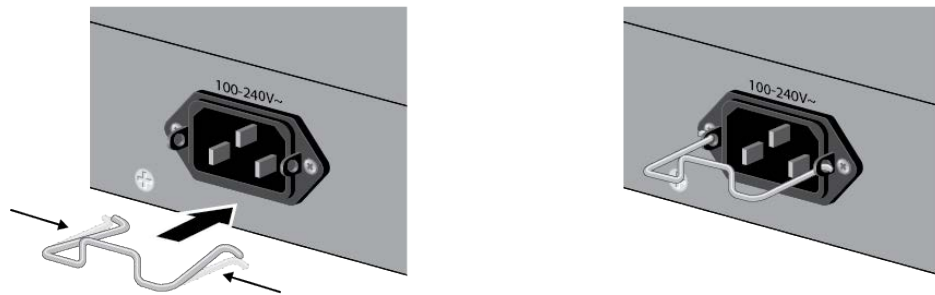

Figure 59. Installing the Power Cord Retaining Clip
1. Install the power cord retaining clip on the AC power connector on the back panel of the switch. Refer to Figure 59.